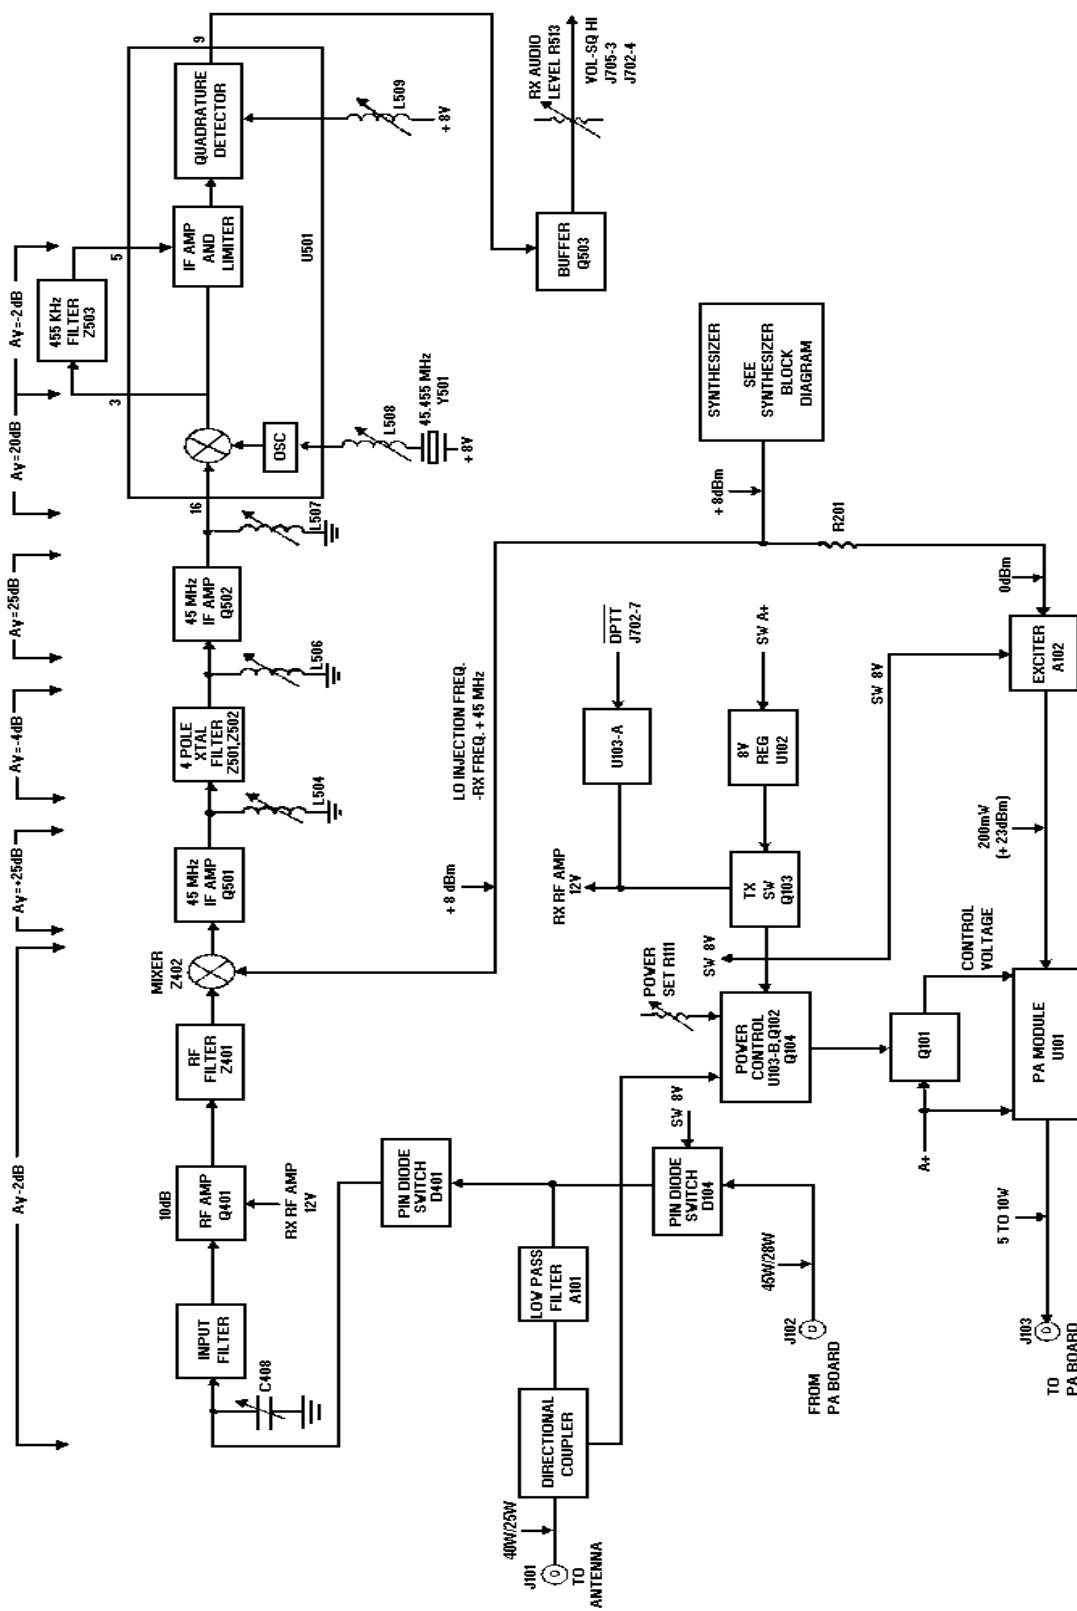
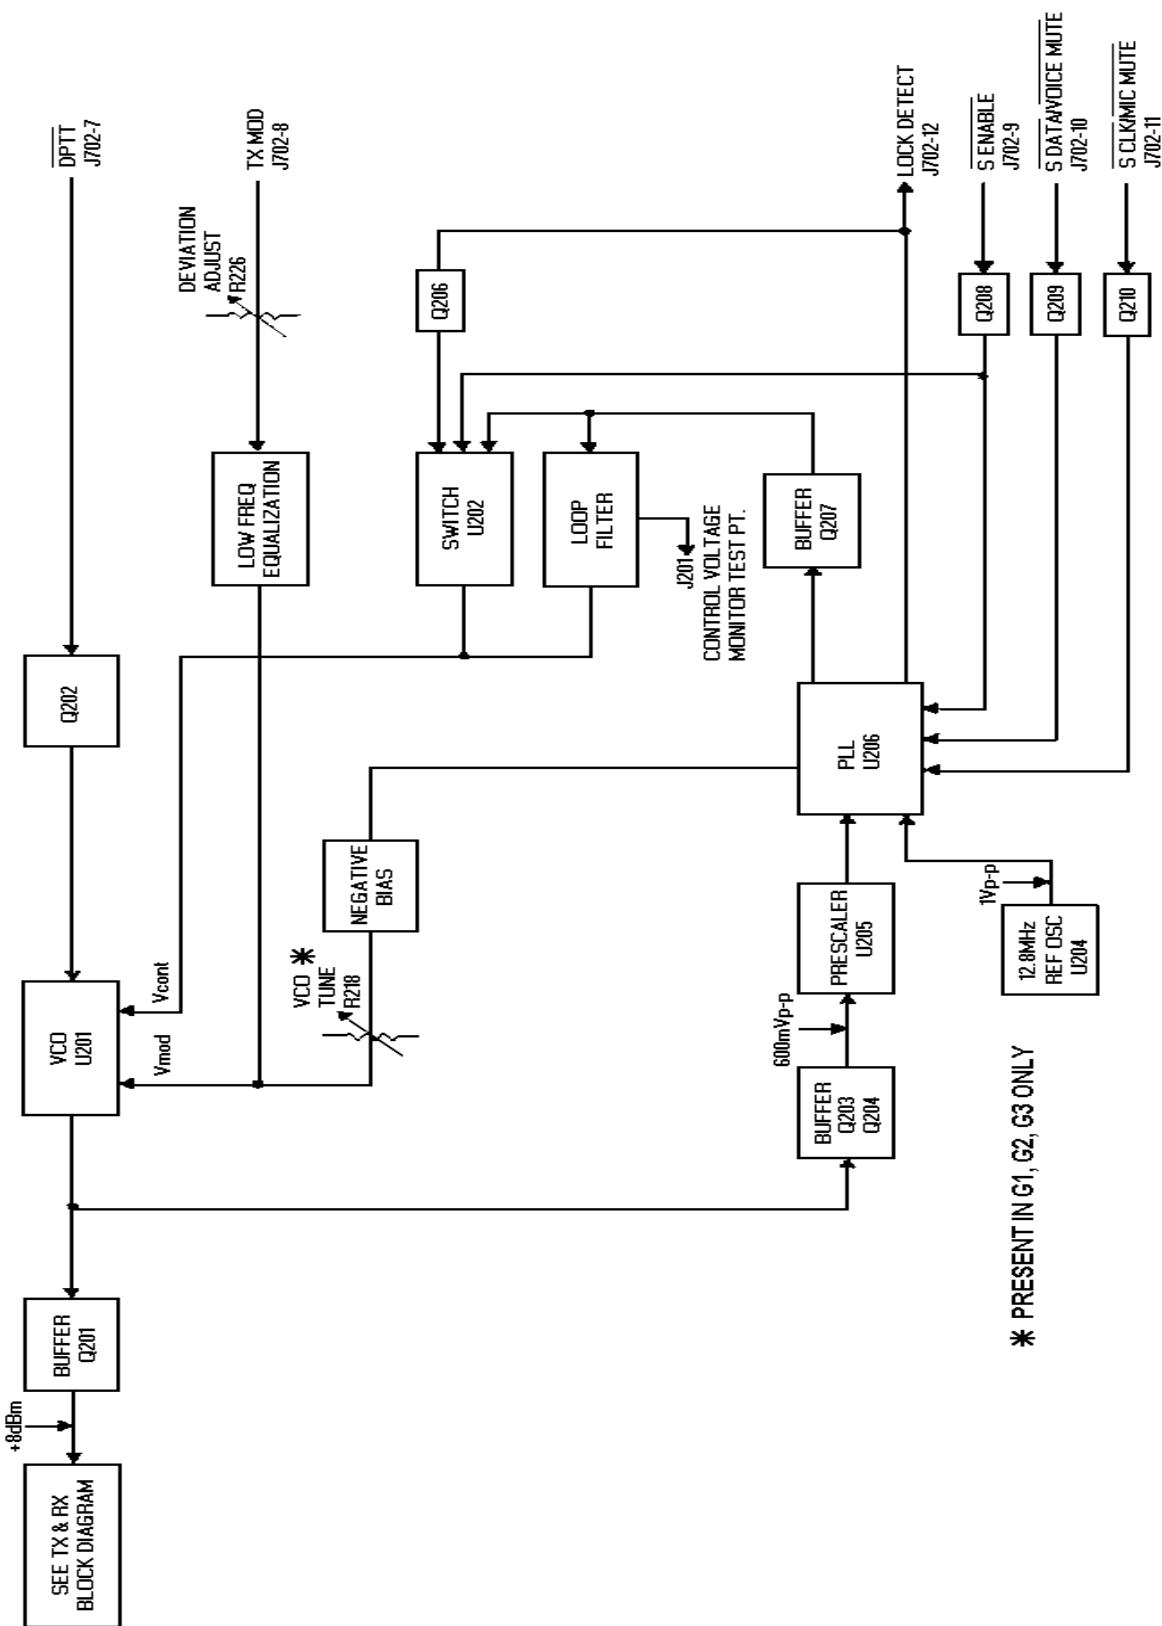

Figure 1 - TX And RX Block Diagram
Figure 2 - Frequency Synthesizer Block Diagram
The RF Board is mounted in the bottom of the frame assembly. Refer to the Combination Manual for the mechanical layout of the radio. Figure 1 provides a block diagram of the receive and transmit circuits. Figure 2 provides a block diagram of the synthesizer.
Figure 1 shows the synthesizer driving the receive mixer at +10 dBm and is attenuated by resistor R202 to +3 dBm for driving the exciter input. Exciter module A102 operates from a switched 8 volt supply. A different exciter module is required for each of the three band splits. No tuning is required. Both input and output ports operate at 50 ohms impedance. The exciter module provides typically 20 dB of gain and 200 mW of output power to drive the power amplifier module.
Most transmit circuit problems can be isolated by checking the TX power gains shown in Figure 1 - RX and TX Block Diagram. The PA Board may be bypassed by placing a jumper cable between J103 and J102 on the RF Board. The PA module U101 is capable of producing 10 watt output
• Poor SINAD	<ol style="list-style-type: none"> 1. Consult Figure 1 - RX and TX Block Diagram for RX stage gains and troubleshoot. NOTE: Use a high impedance RF probe when measuring gain at TP401. A 50-ohm probe may be used if C415 is removed. DO NOT adjust Z401 or Z402 without sweep equipment or the 20 MHz sensitivity bandwidth will be sharply reduced. 2. Input cable. 3. PIN Diode switch is shorted.